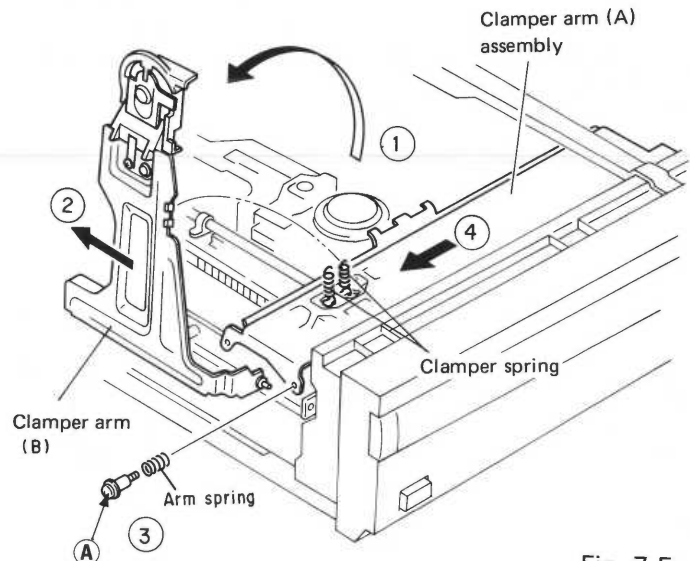

Fig. 7-5
### 7.4 REMOVING THE CLAMPER ARMS (B) AND (A) (Fig. 7-5)